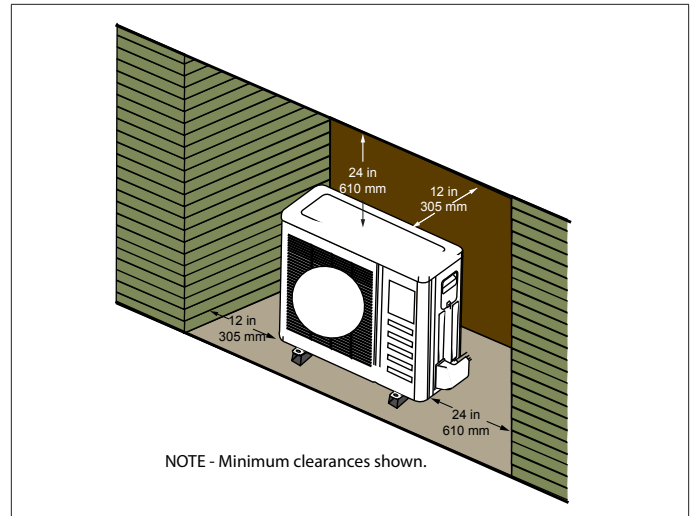

Figure 25. Unit Installed in Alcove
- Outdoor unit can be installed in a alcove or under a roof overhang as illustrated in “Figure 25. Unit Installed in Alcove”